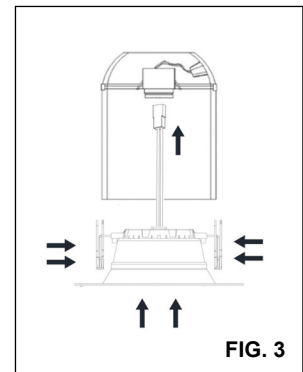

FIG. 3
- 3.Plug the FEMALE CONNECTOR of the RETROFIT KIT onto the MALE CONNECTOR of the SOCKET ADAPTER ASSEMBLY. **(FIG. 3)**
- 4.Squeeze both TORSION SPRING arms together and insert into the CAN. **(FIG. 3)**
- 1.Plug the FEMALE CONNECTOR of the RETROFIT KIT onto the MALE CONNECTOR of the LED HOUSING. **(FIG. 3)**